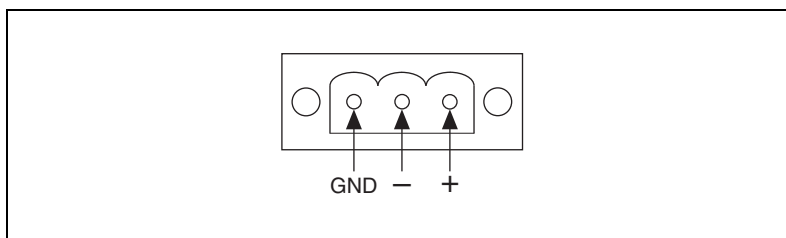

Figure 2-2. Power Receptor and Pin Assignment
4. Connect the power connector to the power receptor on the TPC-2206/TPC-2212. The power receptor pin assignment is shown in Figure 2-2.